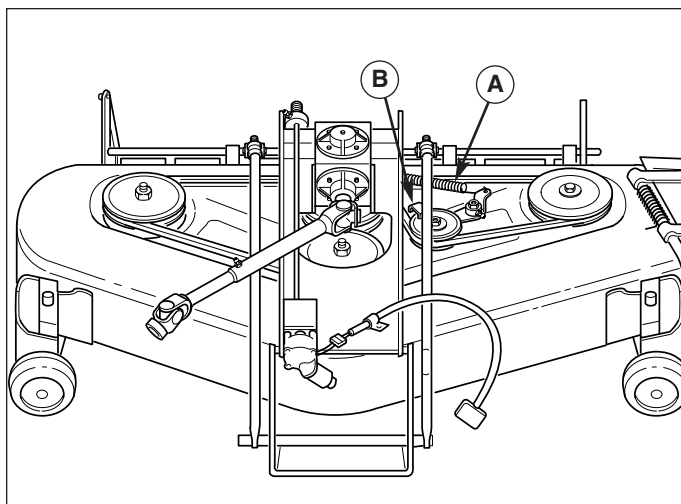

Figure 55. 48" Mower Deck - Covers Removed
3. Using a spring puller or a small rope loop, release the idler assembly tension spring (A, Figure 55).
8. Check that the pulley stop (B, Figure 55) is properly aligned. See PULLEY STOP ADJUSTMENT.